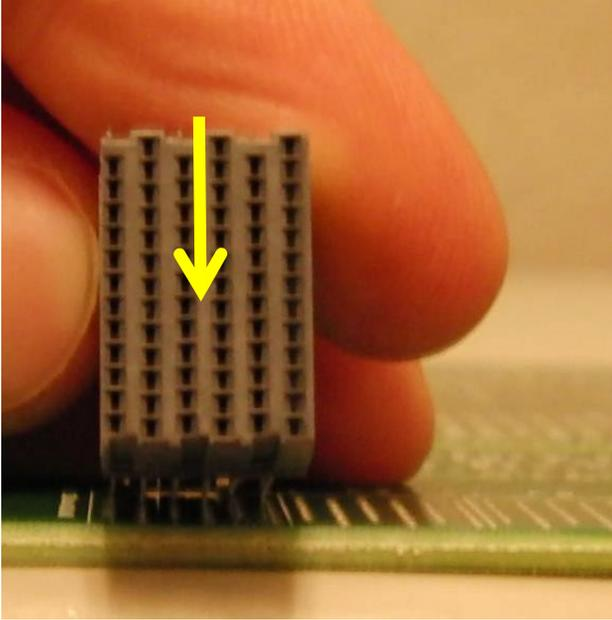

Figure 2. Back row of the DC connector compliant pins in the PTH.
- Step 6. When placing the daughtercard connector onto the PCB, orient the board and pallet so when the connector is placed, the window side will be facing you and the stiffener side will be facing away from you. Hold the connector up off the PCB, and place the back row of compliant pins into the correct plated through hole (PTH), see Figure 2. With the front of the connector still up off the board, roll the connector back to front, into the remaining PTHs, see Figures 3-4.